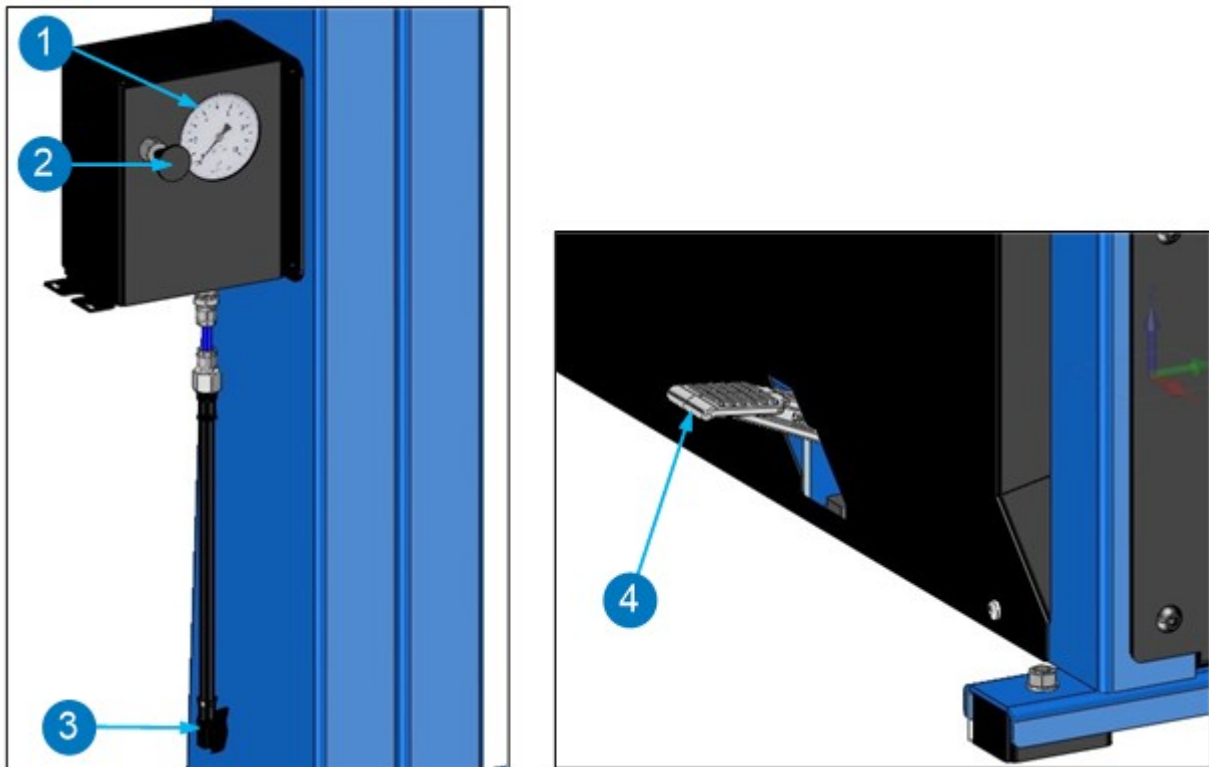

Fig. 14. Inflating unit.
- Fasten the end of the hose (fig. 14 item 3) on the wheel valve;
- Observing the pressure gauge (fig. 14 item 1) press the pedal (fig. 14 item 4) until the desired pressure is reached (fig. 14 item 1);
- If it is necessary to release the pressure, press the valve button (fig. 14 item 2).